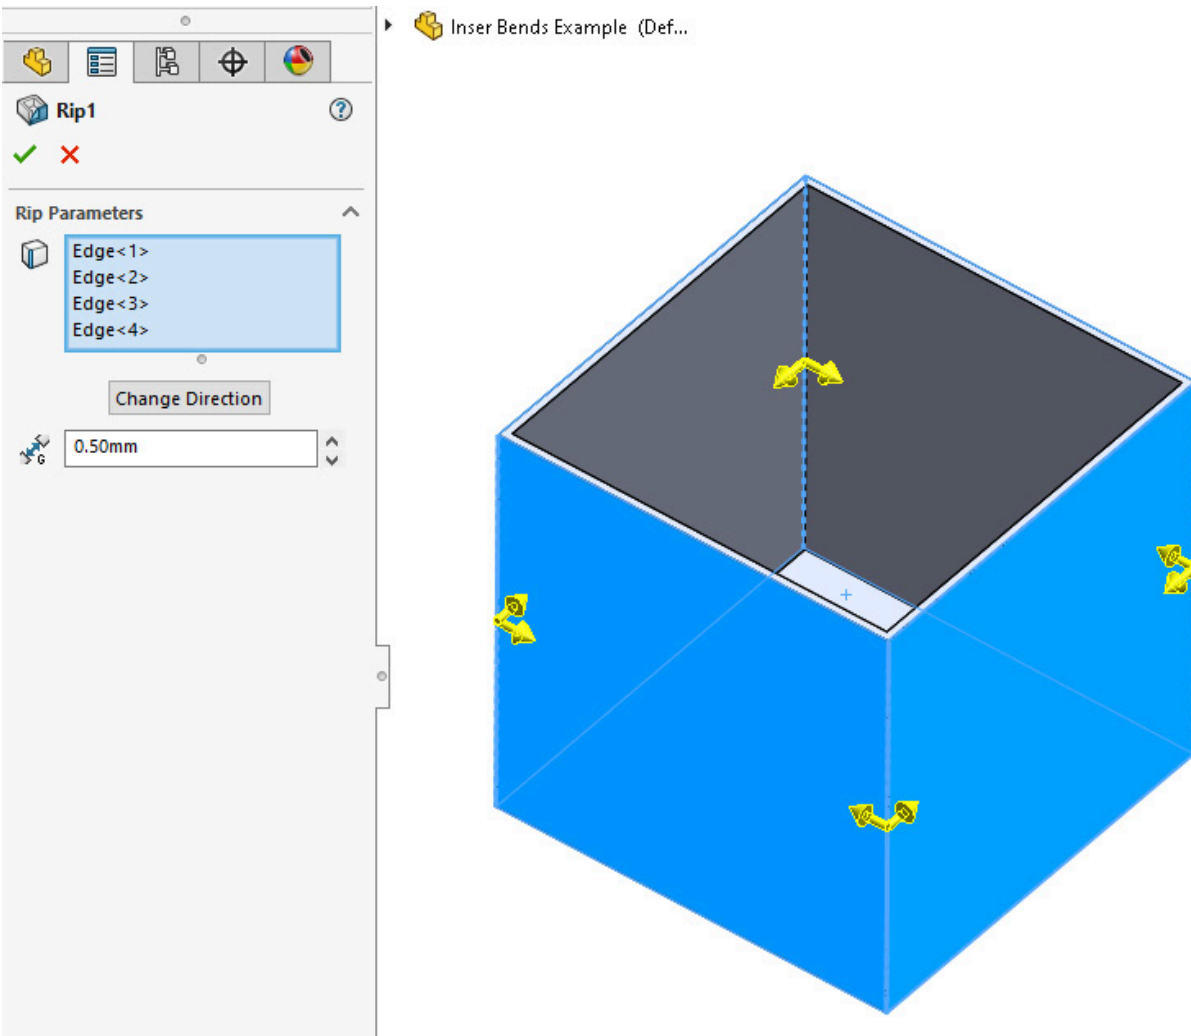

Figure 11.8: Adjusting the rip directions
3. The rip direction can be changed by selecting an edge and then clicking the **Change Direction** button in the Property Manager on the left, or it can be changed by clicking on the yellow arrows in the Graphics Area (*Figure 11.8*).